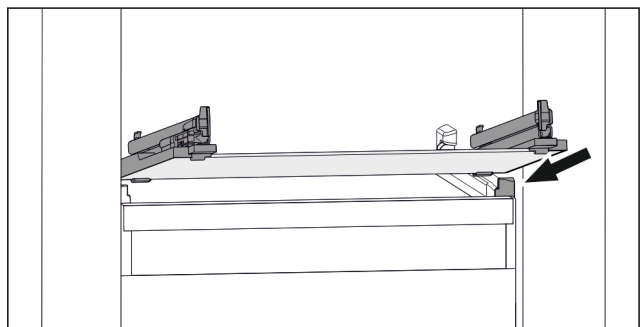

Fig. 89 Example illustration of glass shelf
- ▶ Position glass shelf at an angle behind the stoppers. (see Fig. 89)